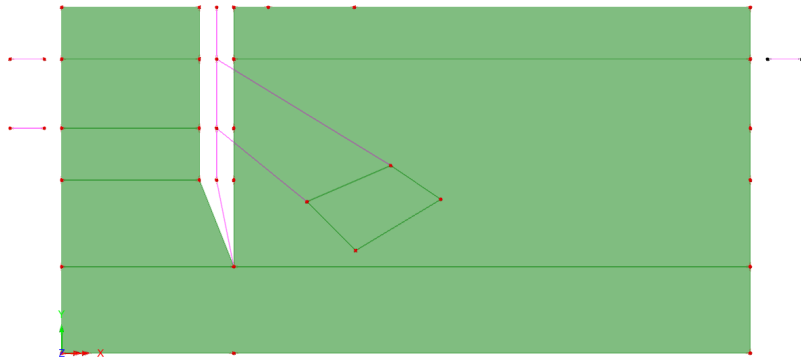

Figure 16: Final Geometry
- Finally, select pairs of points and form the three phreatic surfaces using **Geometry > Line > By Points....** Figure 16 shows the final geometry.